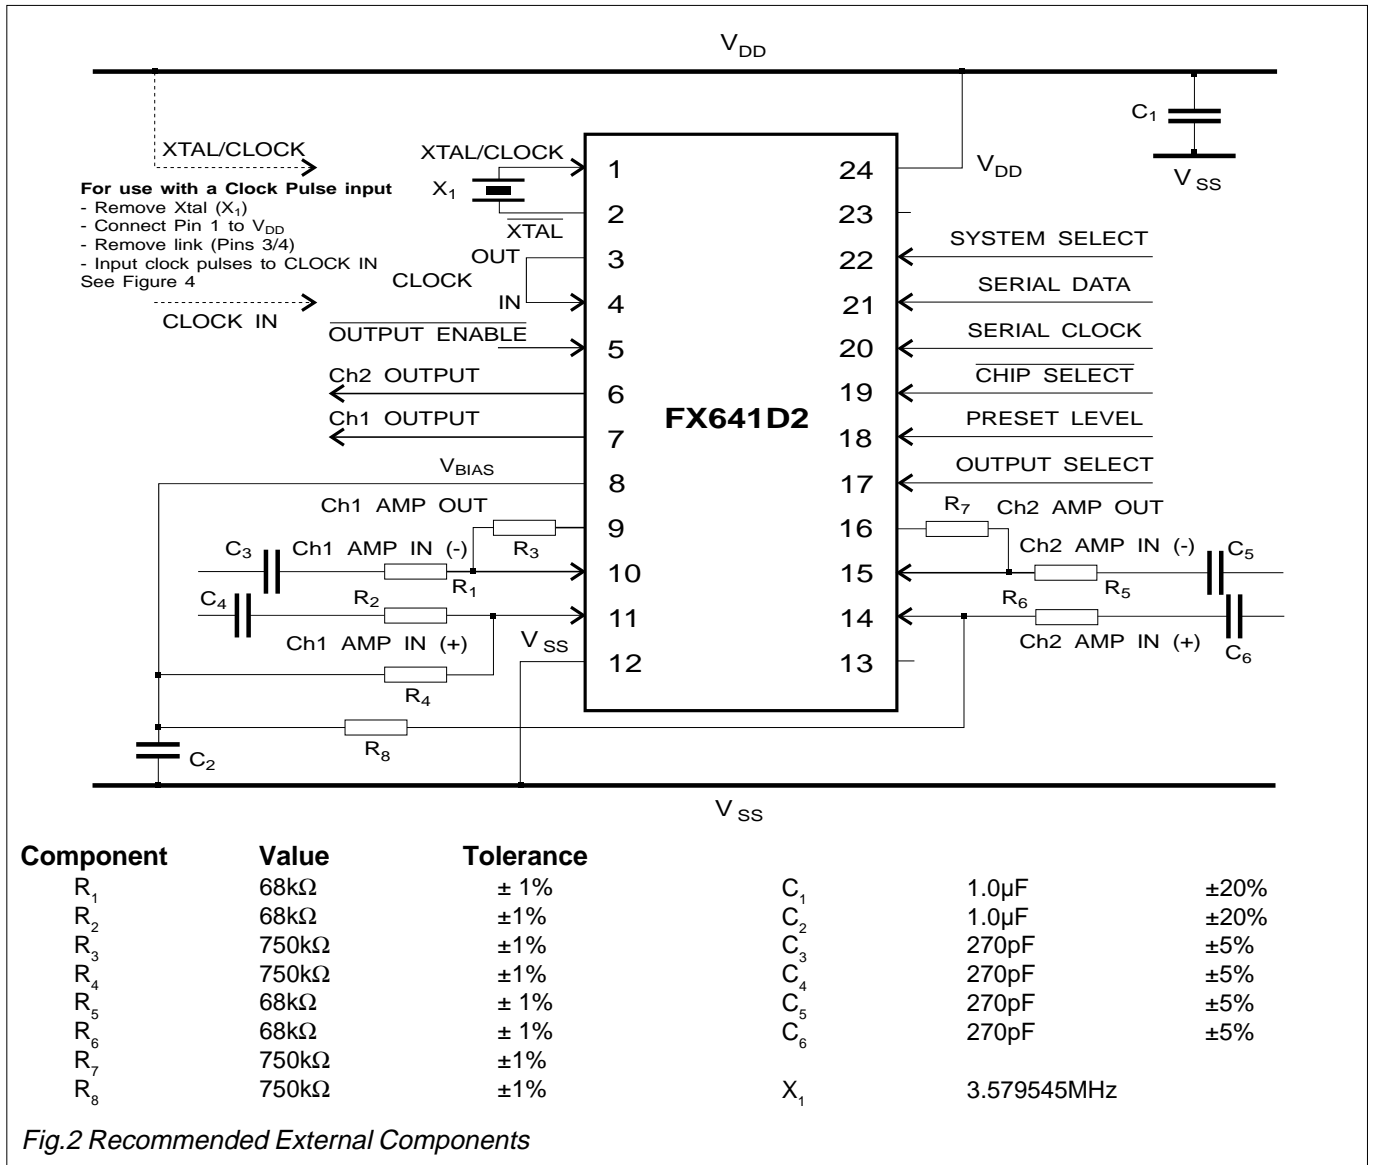

Fig.2 Recommended External Components
1	<p>Xtal/Clock: The input to the on-chip clock oscillator; for use with a 3.579545MHz Xtal in conjunction with the <math>\overline{\text{Xtal}}</math> output; circuit components are on-chip. When using a Xtal input, the Clock Out pin should be connected directly to the Clock In pin. If a clock pulse input is employed to the Clock In pin, this (Xtal/Clock) pin must be connected directly to <math>V_{DD}</math> (see Figure 2). See Figure 4 for details of clock frequency distribution.</p>
8	<p><math>V_{BIAS}</math>: The output of the on-chip analogue bias circuitry. Held internally at <math>V_{DD}/2</math>, this pin should be decoupled to <math>V_{SS}</math> (see Figure 2).</p>
9	<p>Ch 1 Amp Out: The output of the Channel 1 Input Amplifier. See Figures 2 and 3.</p>
10	<p>Ch 1 Amp In (-): The negative input to the Channel 1 Input Amplifier. See Figures 2 and 3.</p>
11	<p>Ch 1 Amp In (+): The positive input to the Channel 1 Input Amplifier. See Figures 2 and 3.</p>
14	Ch 2 Amp In (+): The positive input to the Channel 2 Input Amplifier. See Figures 2 and 3.
15	Ch 2 Amp In (-): The negative input to the Channel 2 Input Amplifier. See Figures 2 and 3.
16	Ch 2 Amp Out: The output of the Channel 2 Input Amplifier. See Figures 2 and 3.
1. The recommended amplifier components (see Figure 2) are employed providing an amplifier gain at 16kHz of 19.8dB  $\pm$ 0.3dB or at 12kHz of 19.1dB  $\pm$ 0.3dB.
With the external gain (sensitivity) components employed as shown in Figure 2 the gain of the input stages is 19.8dB (12kHz) or 20.5dB (16kHz). For controlled sensitivity setting the gain of each bandpass filter, and hence the device sensitivity, is adjusted by the applied serial bits  $D_1$  to  $D_5$ .